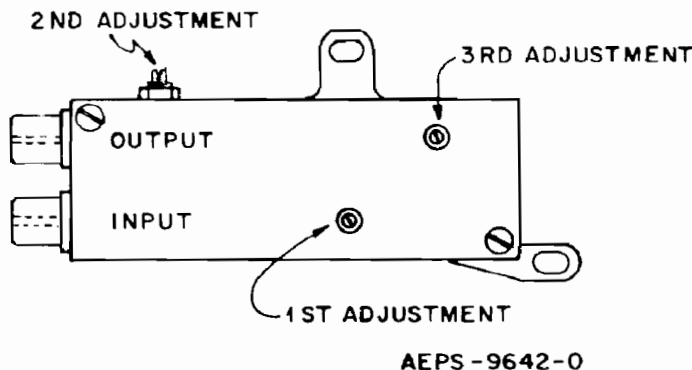

Figure 4. Duplex Injection Filter Adjustment Locations
Step 7. Refer to Figure 4. Tune the 1st adjustment for a peak rf voltmeter reading.